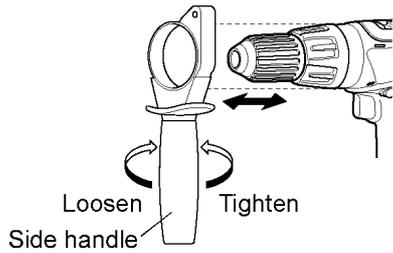

Fig. 4
1. Remove the side handle. (See Fig. 4)